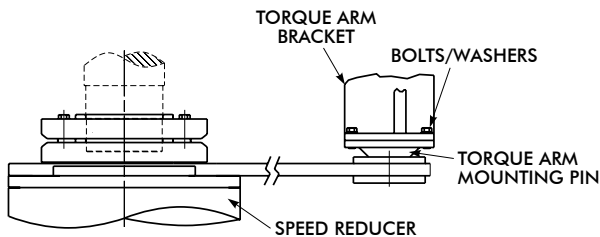

FIGURE 2.2c Mounting of Torque Arm Pins to Torque Arm Bracket
4. Tighten the bolts with washers, shimming if necessary. Reference Table 2 (Page 20) for recommended bolt torques. Reference Figure 2.2c.